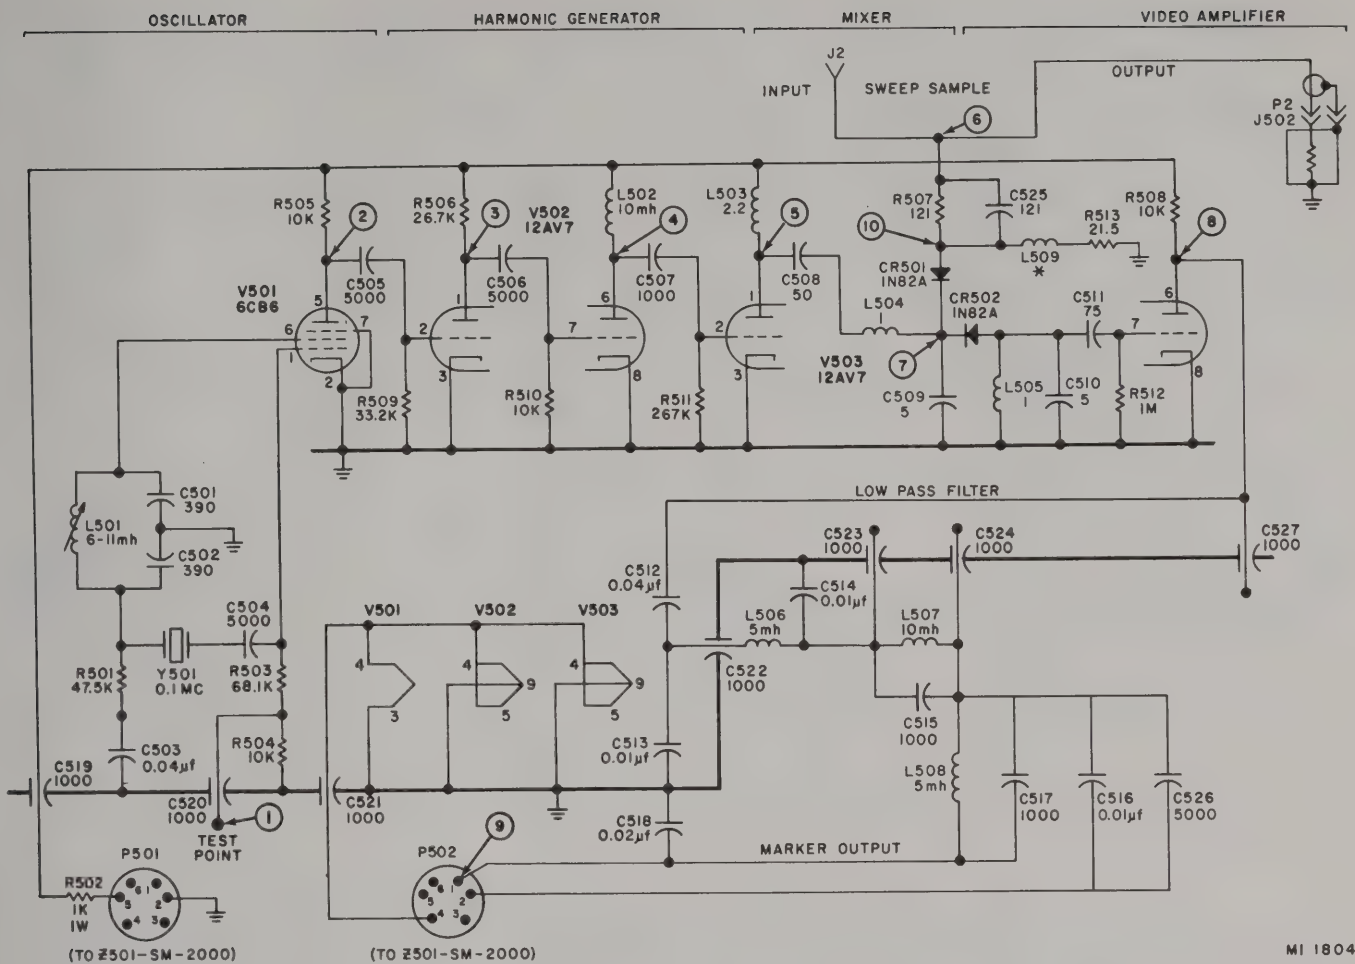

Figure 4-6. CDH 0.1 MHz X-1 harmonic marker.
(1) *0.1 MHz (figure 4-6).* This unit consists of crystal-controlled oscillator V501, with the crystal providing feedback at the series resonant frequency. The oscillator is followed by two harmonic generating stages, V502 and V503. The output of V503-1 is fed to the junction of dual diode mixer CR501 and CR502. Here it combines with the sweep sample coming from R206 in the junction network. The resultant heterodyned signals or "beats" are amplified in video amplifier V503B and fed through low-pass filter C512, L506, L507, and L508 to P502-1. From P502-1, the video is applied through variable resistor R504 to amplifier V501B and then to C501, V504A, and the birdy-by-pass amplifiers. The 0.1 MHz harmonic marker provides strong harmonics from 100 kHz to over 100 MHz.